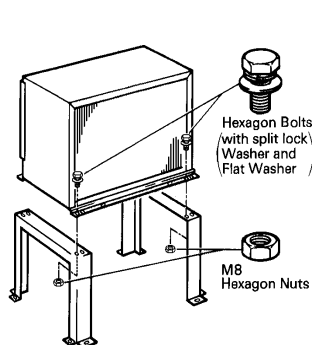

Fig. 8
- 1) Secure the Legs to the condenser unit with eight M8 x 16 mm. Hexagon Bolts and M8 Nuts as shown in the illustration. See Fig. 8.